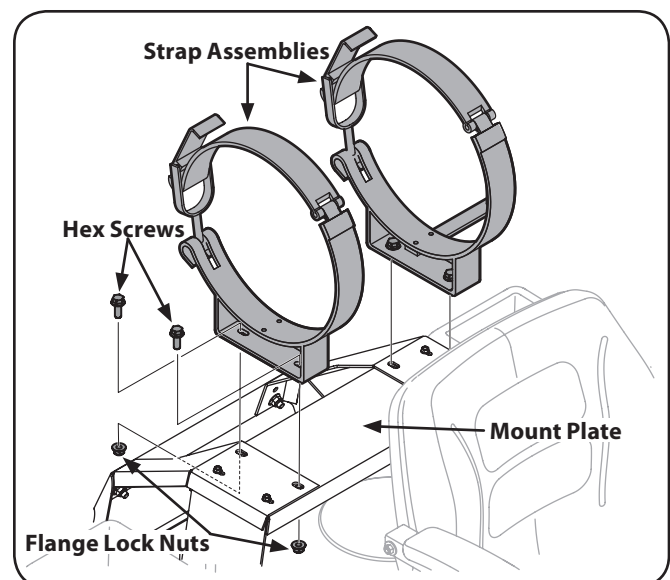

Figure 3-2
2. Mount the alignment pin to the strap assembly using the two bolts. See Fig. 3-2. Then using the hex screws and flange lock nuts mount the strap assemblies to the mount plate as shown in Fig. 3-2.